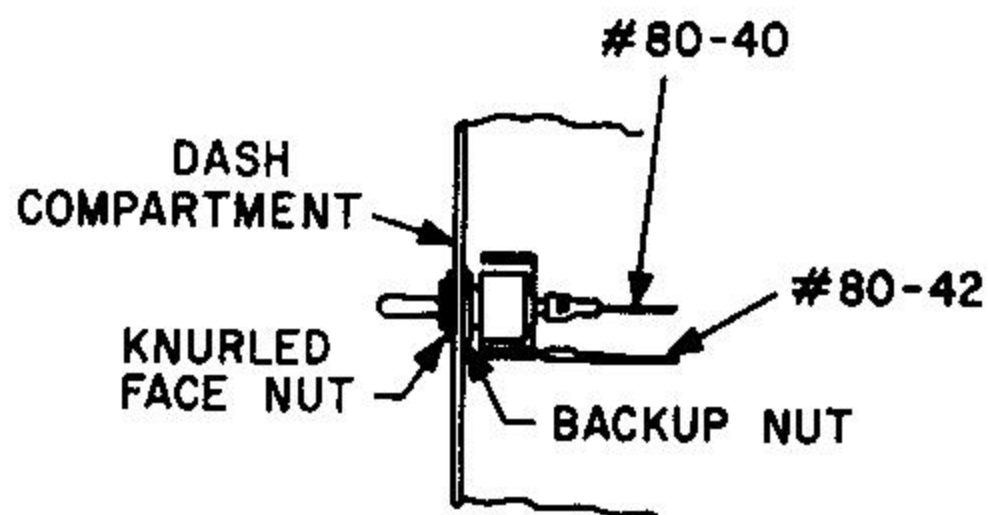

Figure 4B
- Mount the light switch as shown in Figure 4B.
- Attach furnished wires 80-40 and 80-42 to the rear of the light switch as shown in Figure 4B.